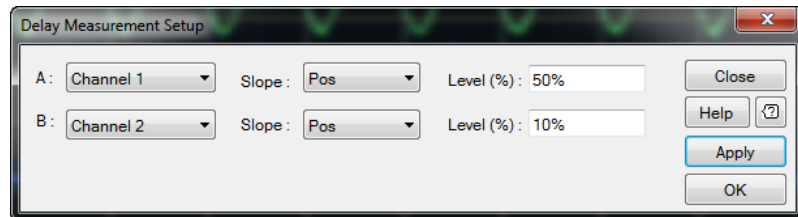

Figure 2-114 Delay Measurement Setup dialog
- 2 The Delay Measurement Setup dialog is displayed as shown in Figure 2-114.